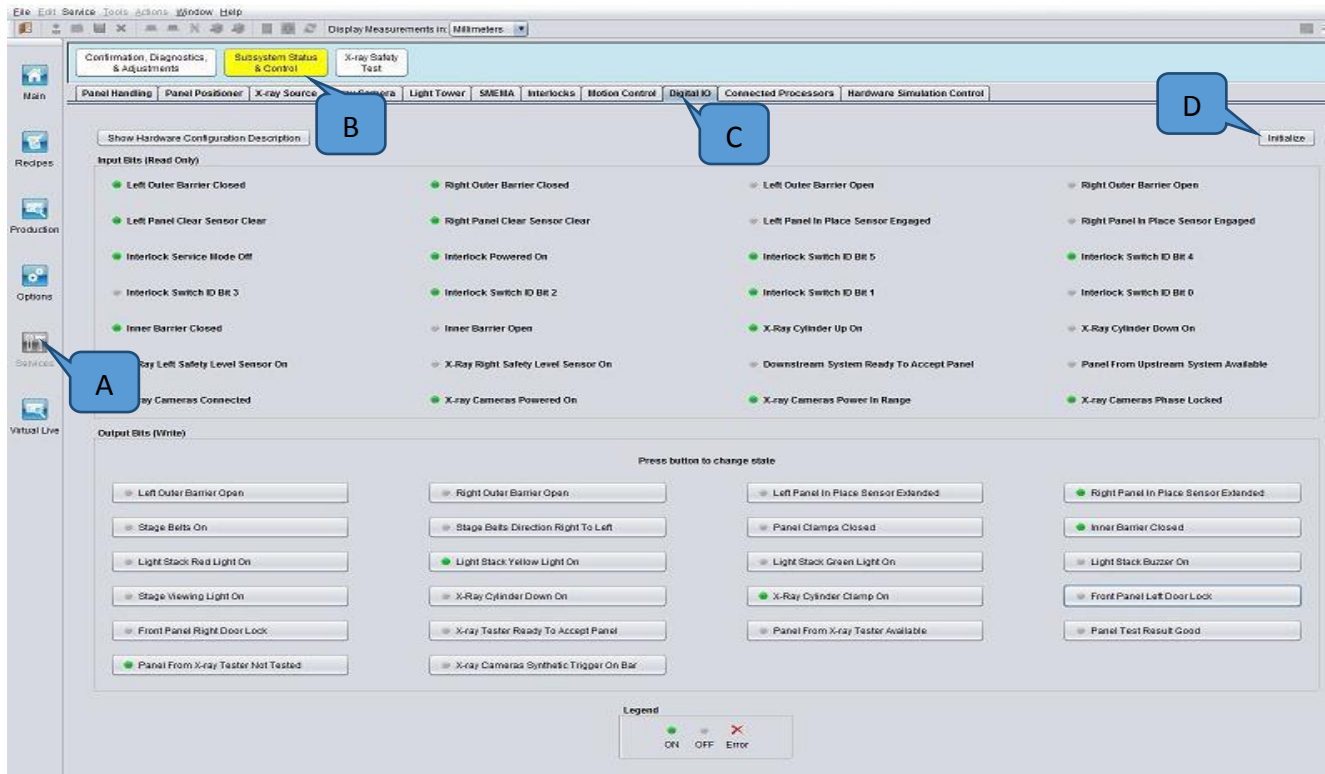

Figure 1 Digital IO
- Go to Digital I/O tab and initialize as show in Figure 1.